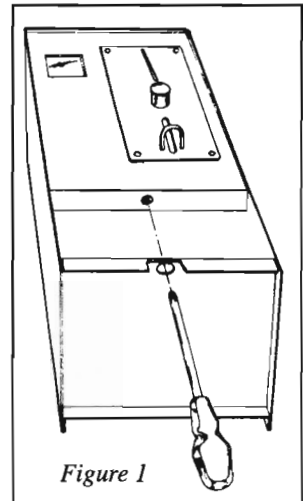

Figure 1
- ii. See figure 1. Using a No. 1, 9 inch pozidrive screwdriver remove the recessed screw and remove the front panel by pulling towards base as far as possible, lifting bottom edge slightly outwards and then lifting panel upwards. **IMPORTANT.** It is essential that panel recess is clear of case lip before attempting to lift panel out. Rotate front panel and withdraw 9 way connector from printed circuit board thus separating front panel from the meter case. Set programming switches (section 3) and place panel in a safe place.